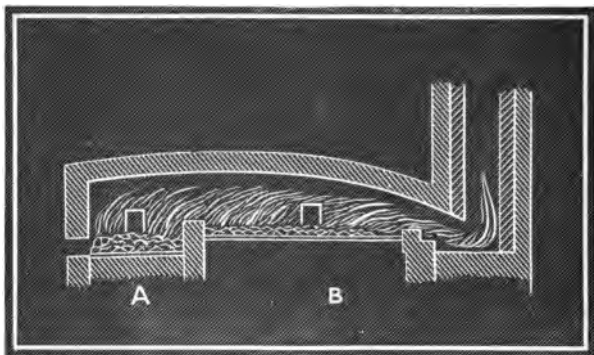

Fig. 38.
2. **Pig iron** (2 to 5 per cent. of C) is changed to wrought iron (less than $\frac{1}{2}$ per cent. of C) by burning out the C (also S, Si, and P) in a reverberatory furnace, "puddling furnace" (Fig. 38). Fuel burns upon the grate A; pig iron is placed upon the floor B, and is frequently stirred by means of openings in the side.